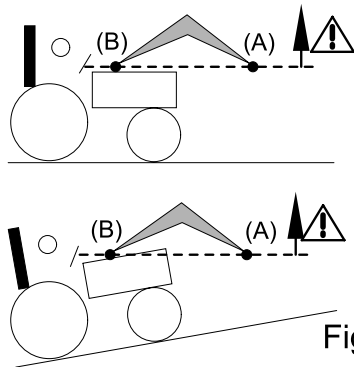

Fig. 2
- During lifting operations and when moving, ensure that you keep the load in sight, from the moment the implement pivot point (A) passes above the horizontal line of the loader pivot point (B) [see Fig. 2]. If necessary, correct the implement's position so that the load is never directed towards the driver [see Fig. 3].
! **DANGER:** If the load is not properly secured, the operator is exposed to the risk of the load falling when the implement pivot point (A) passes above the horizontal line of the loader pivot point (B) [see Fig. 2].
! **DANGER:** Do not crowd the loader when the implement pivot point (A) exceeds the horizontal line of the loader pivot point (B) [see Fig. 2].